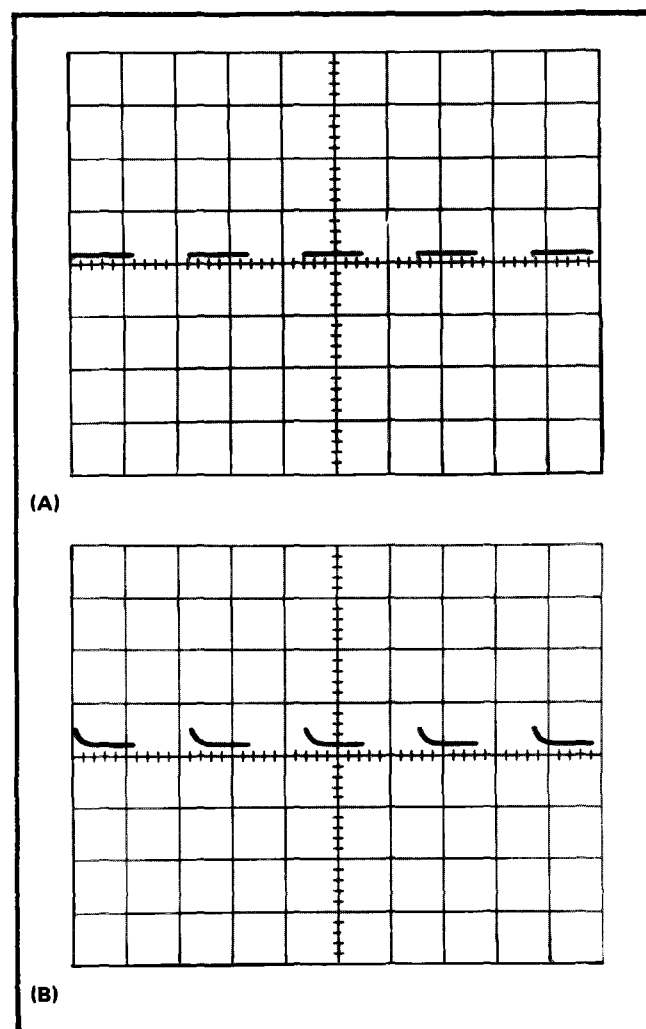

Fig. 5-3. Typical waveform showing (A) Cross neutralization properly adjusted, (B) incorrectly adjusted.
- CHECK—The upper leading corner of the waveform, and note any aberration that occurs while switching the —INPUT AC-GND-DC switch from GND to DC. The waveform should appear similar to the one in Fig. 5-3. The aberration should not exceed  $\pm 1\%$ .
c. **CHECK**—The lower leading corner of the second cycle of the display and note any aberration that occurs while switching the +INPUT AC-GND-DC switch from GND to DC. The bottom leading corner of the waveform should appear similar to the one shown in Fig. 5-3. The aberration should not exceed  $\pm 1\%$ .